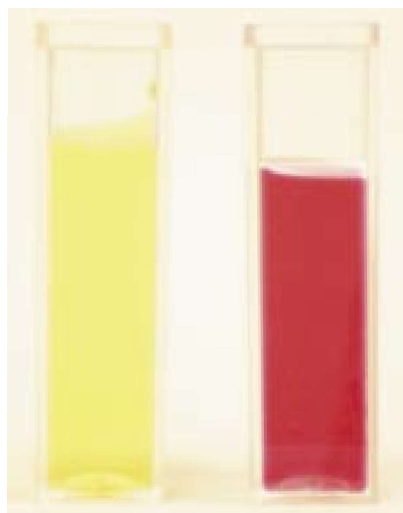

Figure 3 - Dyes in a purple Skittle®.
2) Sweets - the colours can be extracted by putting two in a test tube with just enough water to cover them, though better results are obtained by using more sweets and evaporating some of the water to concentrate the colours. Many sweets don't have different colouring dyes, so try the brighter ones like Skittles® and M&Ms®. Figure 3 shows a purple Skittle® using talc and water - you can see the red and yellow have come out well. In addition, a blue dye remained in the column.